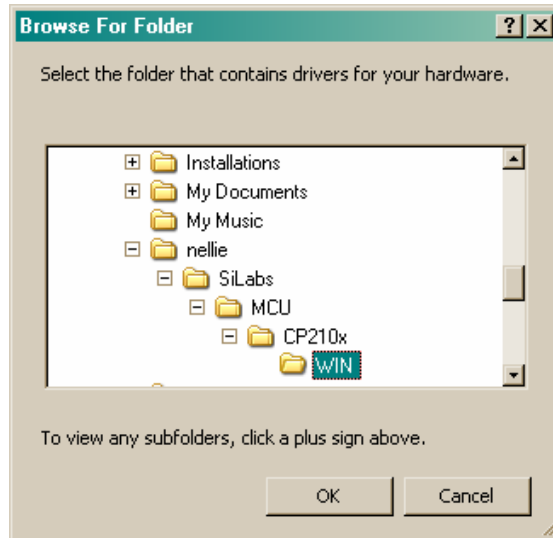

Figure 15
5. When the Browse pushbutton is selected, a **Browse for Folder** will appear as in Figure 15. Do the following in this window: